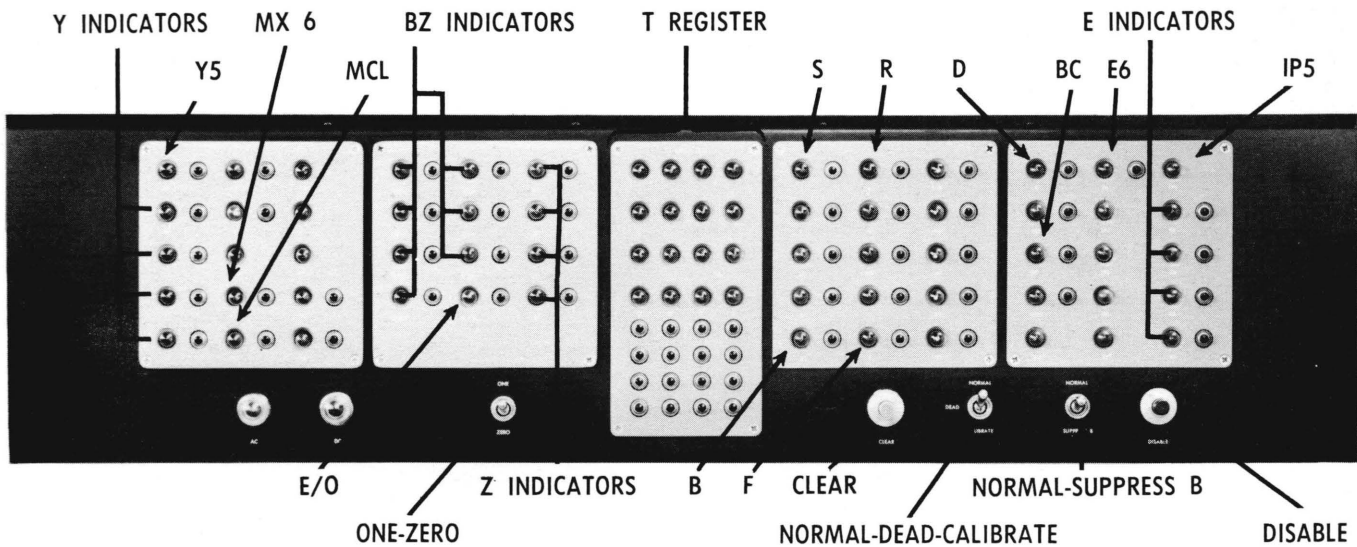

Figure 9-3. Tape Control Unit Control Panel.
9-7. The control panel of the Magnetic-Tape Control Unit is made up of five subpanels plus a group of operating controls (figure 9-3). From left to right, the subpanels may be thought of as the read and designate subpanels, the T register, and the control and write subpanels, since the indicators and controls that the operator uses during read operation are on the first subpanel, those that he uses for manual designation of units and lanes are on the second, and so forth. Note that the BC indicator on the write subpanel functions during search and read, as well as during write. The parity-error (D) indicator, which functions only during read, also is on this subpanel.